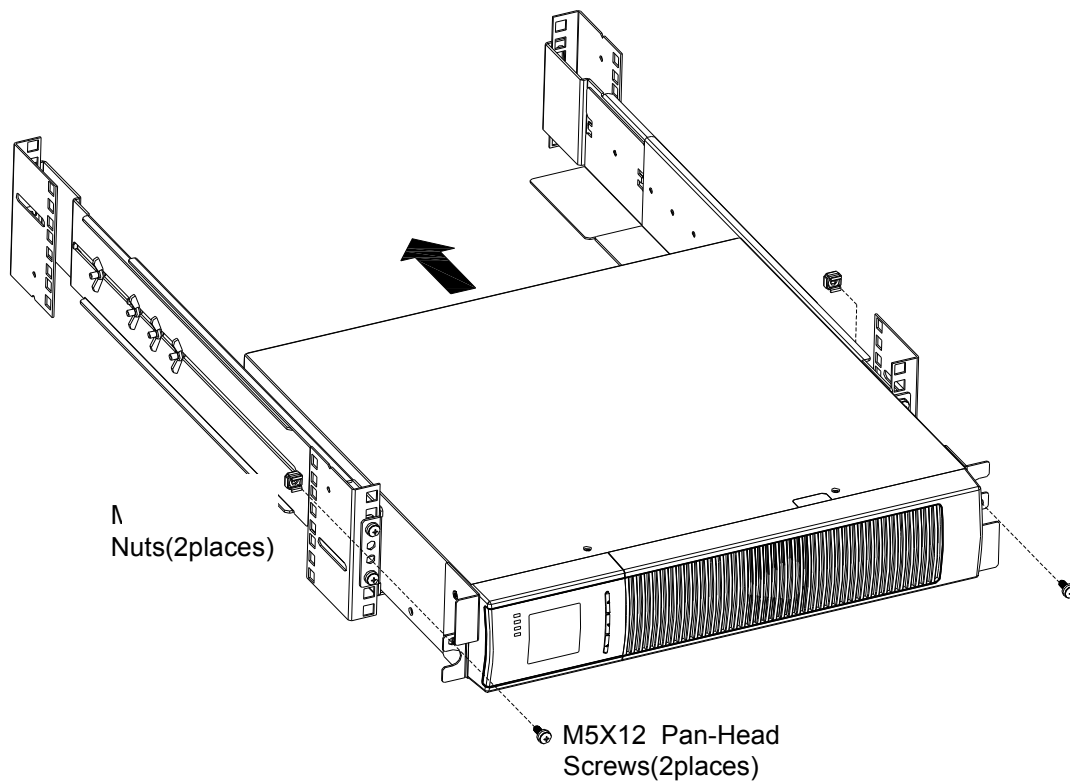

FIG. 5 Securing the Front of the Cabinet
12. Secure the front of the UPS to the rack using one M5×12 pan-head screws and one M5 cage nuts on each side(see FIG.5).Install the bottom screw on each side through the bottom hole of mounting bracket and the bottom hole of the rail.